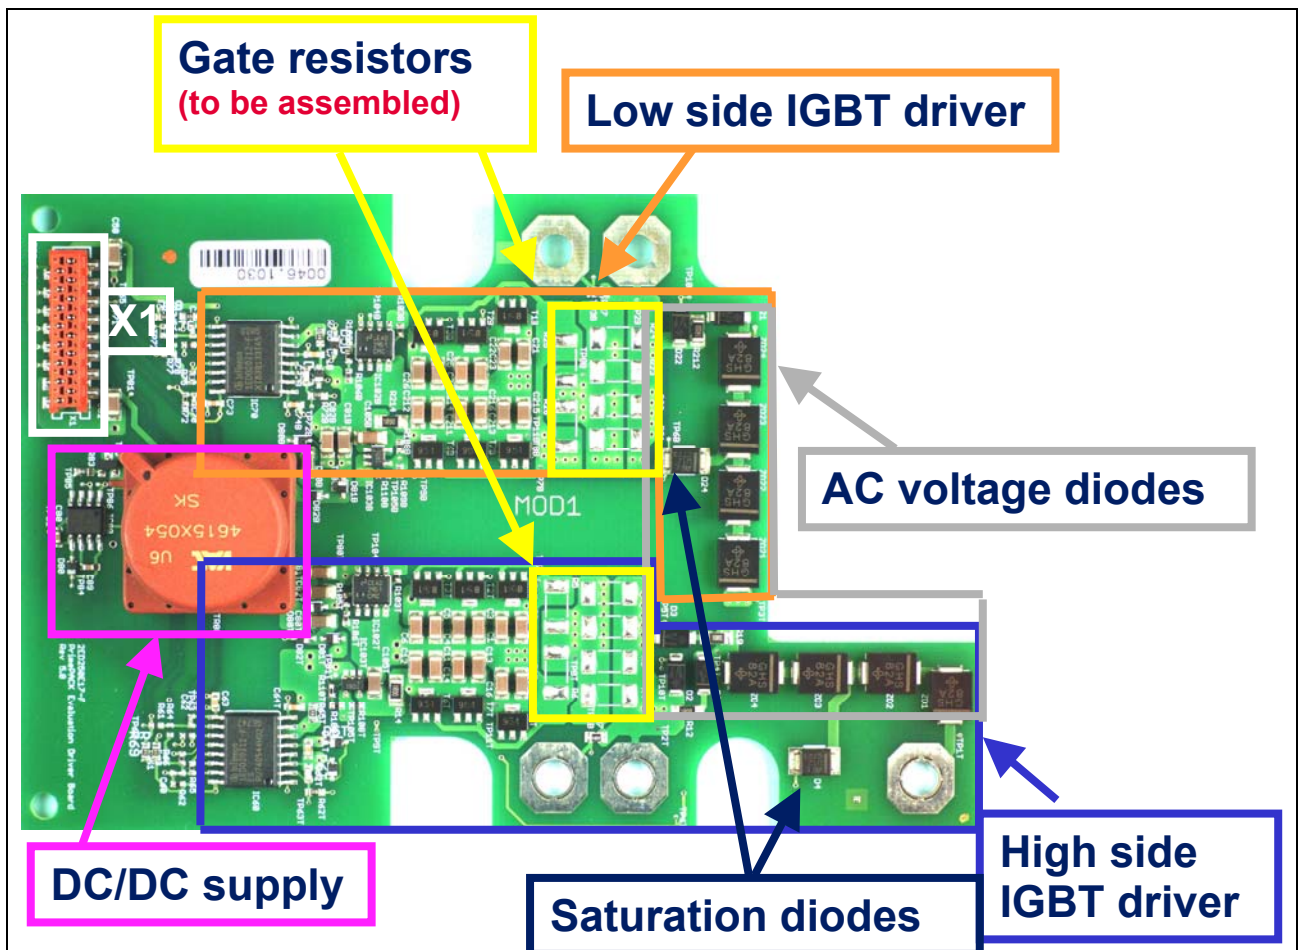

Figure 5 The 2ED250E12-F with marked functions
The picture below (Figure 5) depicts the 2ED250E12-F with already mentioned functions and shows their physical location.
**NOTE:** The 2ED250E12-F evaluation driver is delivered without gate resistors soldered. In that way the PCB design is flexible and ready to be utilised with all PrimePACK™ modules in 1200 V class. Physical place for the gate resistors is shown in Fig. 5, where the value has to be splitted between resistors  $R_1$ ,  $R_2$ ,  $R_3$ ,  $R_4$ ,  $R_5$  for the high side IGBT and  $R_{21}$ ,  $R_{22}$ ,  $R_{23}$ ,  $R_{24}$ ,  $R_{25}$  for the low side IGBT. The scheme is shown in Figure 7.